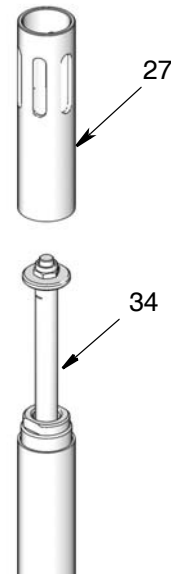

Fig. 24
29. Install shovel cylinder (27) over priming rod (34) (Fig. 24). Use a strap wrench to tighten shovel cylin-